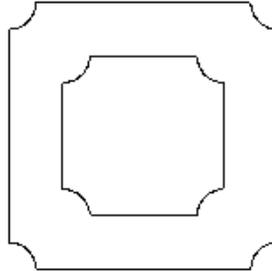
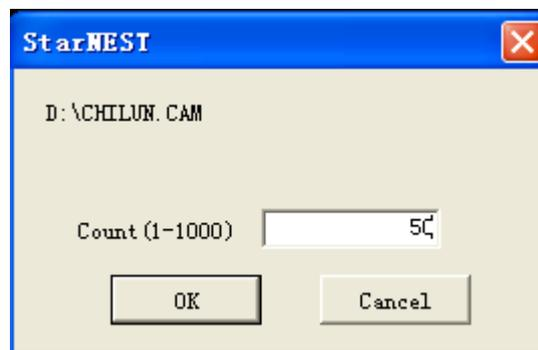

Figure 1-1
Figure 1-2
- (1) Add a part as shown in Figure 1-1, select the part, click button “Move down”, thus the part is moved to the lower left corner of plate. Then click “Array” in menu “Interactive”, the “input quantity” box is popped up, as shown in Figure 1-2.